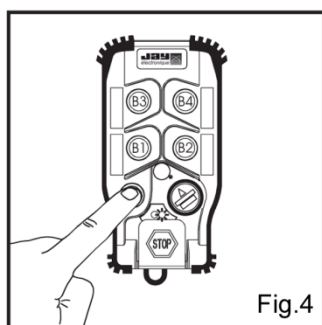

Fig.4
- 5- Once the desired channel is selected (choice of No. 01 to 64), press the "ON" button to validate your selection (Fig. 4).
- 5- Once the new duration is selected (between 01 and 99), press the “On” button to validate your choice (Fig. 4).
- 5- Validate the selected mode by pressing the "On" button (Fig.4).
5- Exit the programming mode by pressing the emergency stop palmswitch (Fig.4).